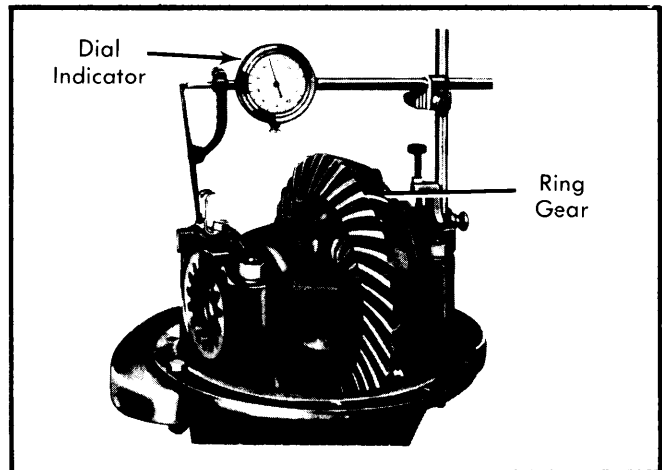

Fig. 8 Checking Differential Bearing Preload
**Differential Bearing Preload** — Taking care not to disturb ring-to-pinion gear backlash, set preload using a dial indicator. See Fig. 8. After setting preload, tighten bearing cap nuts and complete assembly procedure.